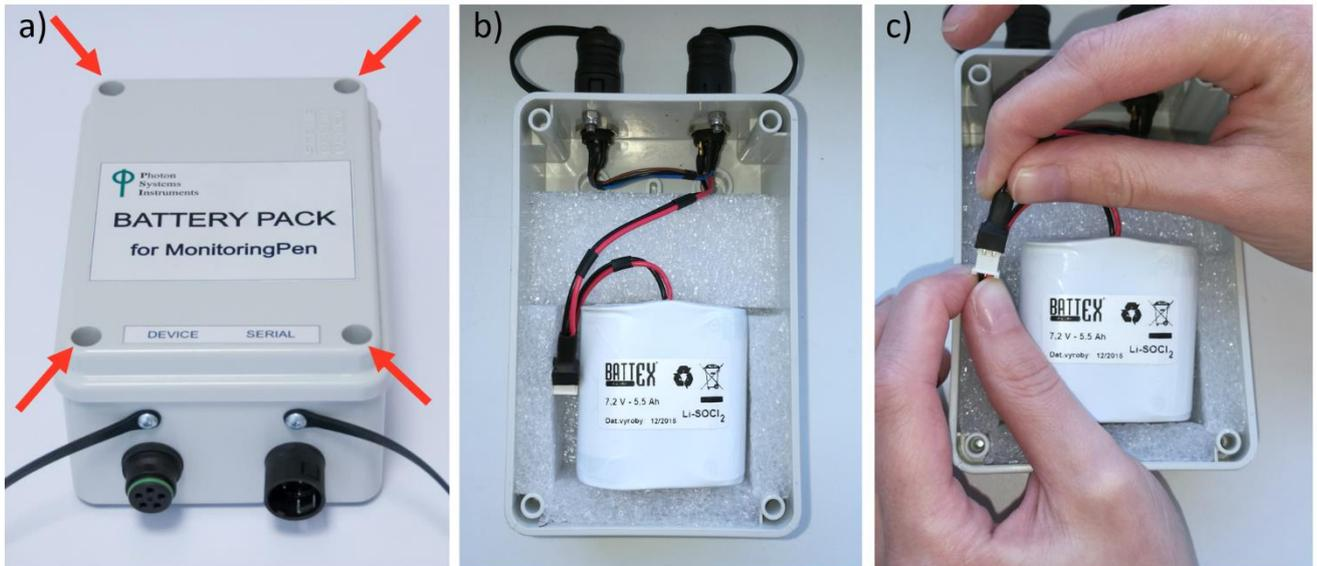

Fig. 36 Battery replacement for Extended Temperature Range Battery Pack.
1. Remove 4 screws in the corner of the case and remove the battery pack cover (Fig. 36 a, b).
2. Disconnect the internal battery from the cable (Fig. 36 c).